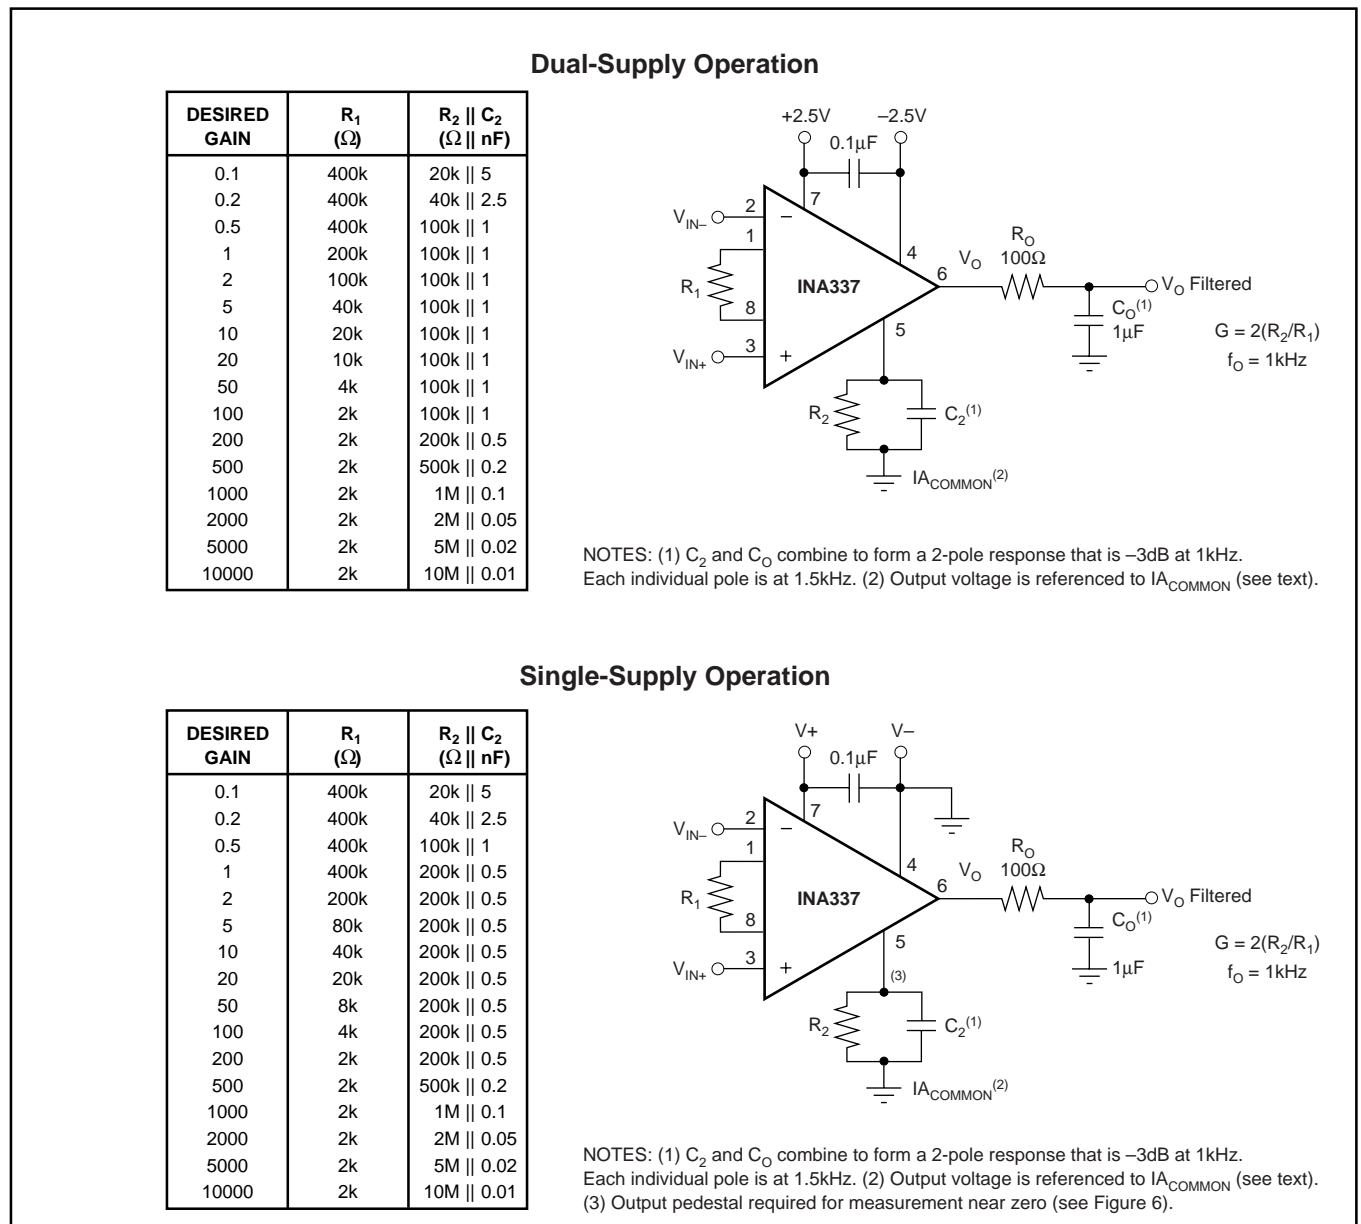

FIGURE 1. Basic Connections. NOTE: Connections for INA338 differ—see Pin Configuration for detail.
NOTES: (1) 1000-hour life test at $150^{\circ}C$ demonstrated randomly distributed variation in the range of measurement limits—approximately $10\mu V$. (2) See Applications Information section, Figures 1 and 2. (3) Does not include Error and TCR of external gain-setting resistors. (4) Dynamic response is limited by filtering. Higher bandwidths can be achieved by adjusting the filter. (5) See Typical Characteristics, "Input Offset Voltage vs Warm-Up Time".
Figure 1 shows the basic connections required for operation of the INA337. A 0.1µF capacitor, placed close to and across the power-supply pins is strongly recommended for highest accuracy. R_OC_O is an output filter that minimizes auto-correction circuitry noise. This output filter may also serve as an anti-aliasing filter ahead of an Analog-to-Digital (A/D) converter. It is also optional based on desired precision.
Resistor values for commonly used gains are shown in Figure 1. Gain-set resistor values for best performance are different for +5V single-supply and for ±2.5V dual-supply operation. Optimum value for R₁ can be calculated by:
Circuit layout and supply bypassing can affect performance. Minimize the stray capacitance on pins 1 and 8. Use recommended supply bypassing, including a capacitor directly from pin 7 to pin 4 (V_+ to V_-), even with dual (split) power supplies (see Figure 1).